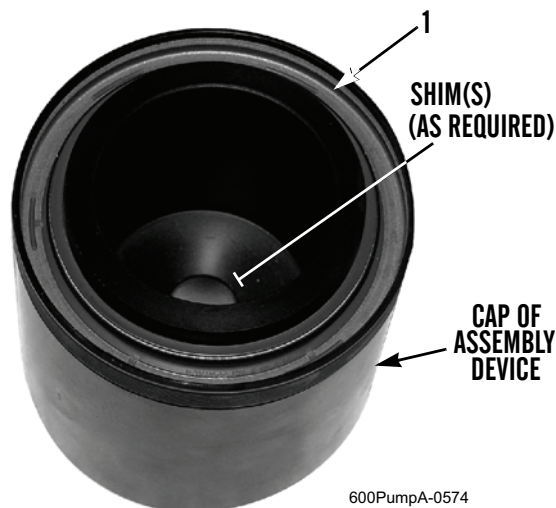

Figure 4. Installing Shim(s) (As Required) and New Front Main Seal on Cap.
2. Inspect seal running surface on vibration damper shaft (Figure 4, Item 5) for score damage or wear. If a run-in groove is noted, new front main must not be installed at same depth as old seal. Refer to *Installation* for instructions.
3. Install shim(s), as required, in cap of assembly device (Figure 4).
4. Apply a light coat of oil to sealing lip of new front main seal (Figure 4, Item 1) and install seal in cap, with sealing lip facing crankshaft.